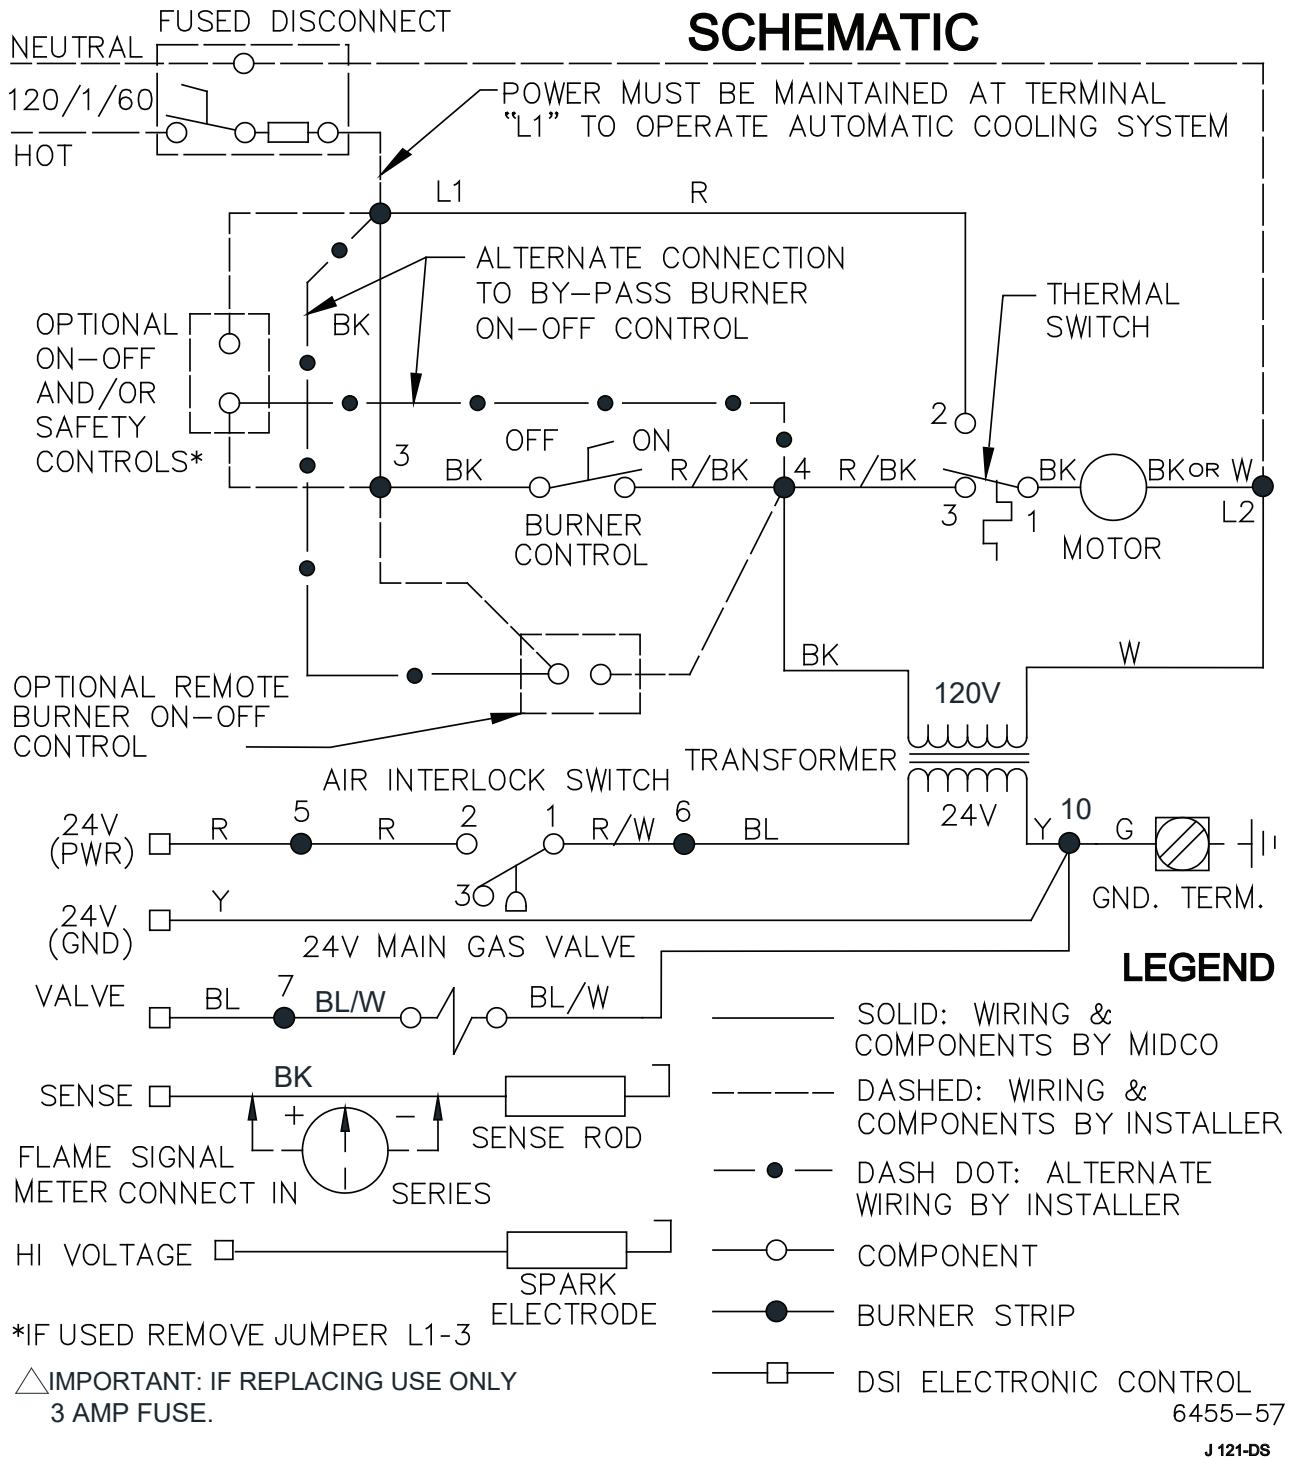

Figure 2A Wiring Diagram (6455-57)
**CAUTION:** In order for the automatic cooling system to function, power must be maintained to burner strip terminal L1. Do not install any safety or on-off controls in the circuit between the fused disconnect switch and strip terminal L1. Optional remote control devices should be connected in place of, or in addition to, the switch or timer as indicated in Figure 2A, 2B, 2C, or 2D Wiring Diagram.